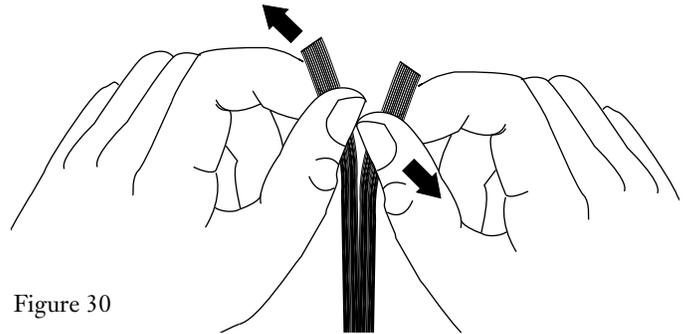

Figure 30
- c) Pull the two sections apart in opposite directions (Figure 30).